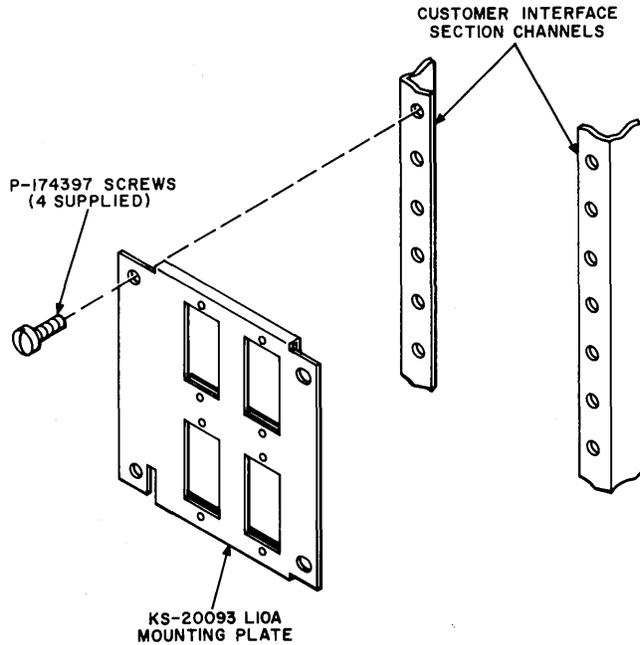

Fig. 11—Details for Mounting KS-20093-L10A Mounting Plates
- 3.20** Installation of the mounting plates should be in accordance with Fig. 11.